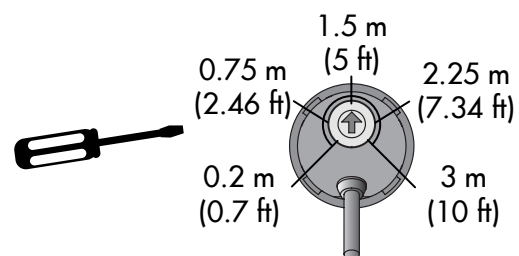

Figure 10: Example of an adjustment between 0.2 m and 3 m
- ▶ When setting with the potentiometer, use figure 10 below as the settings are not printed on the sensor.